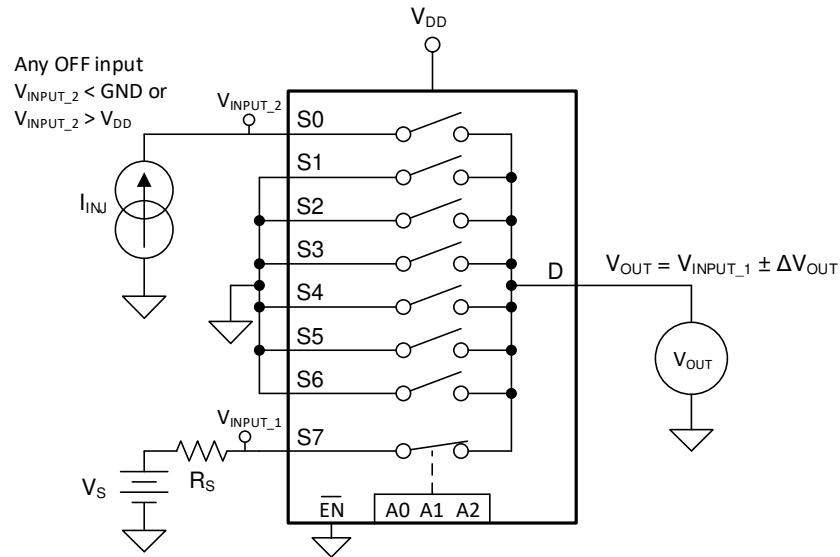

**Figure 7-10. Bandwidth Measurement Setup**
Bandwidth is defined as the range of frequencies that are attenuated by less than 3 dB when the input is applied to the source pin (Sx) of an on-channel, and the output is measured at the drain pin (D) of the device. Figure 7-10 shows the setup used to measure bandwidth.